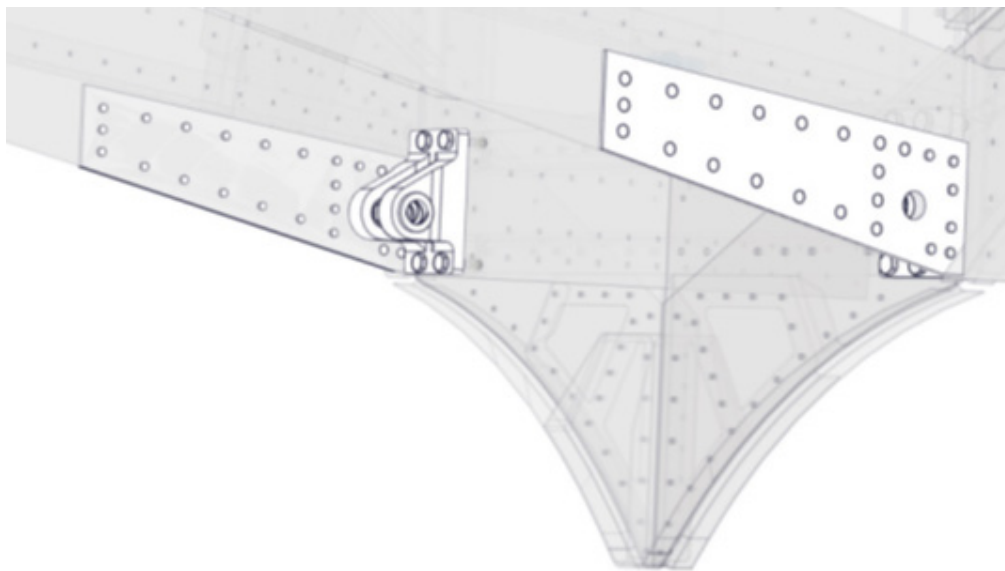

Figure 2
8. Secure the doubler to the carry through strap and back drill the (18) aft rivet holes (see rivets boxed in figure 2).